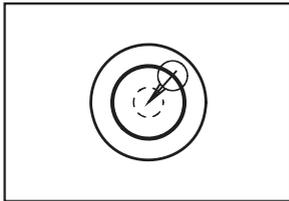

Fig. 4
1. Turn on the power switch (12). The unit (laser level) projects the horizontal laser- beam line.
2. If the unit is placed in a slanting position, it will not emit any laser lines at all. Adjust the level adjusting ring (9) so that the air-bubble in the round vial (4) is centered. (See the Fig. 4)
3. If you work with the receiver (optional accessory), press the interior/exterior mode change button (2). Exterior mode indicator LED (green) (3) will light on.